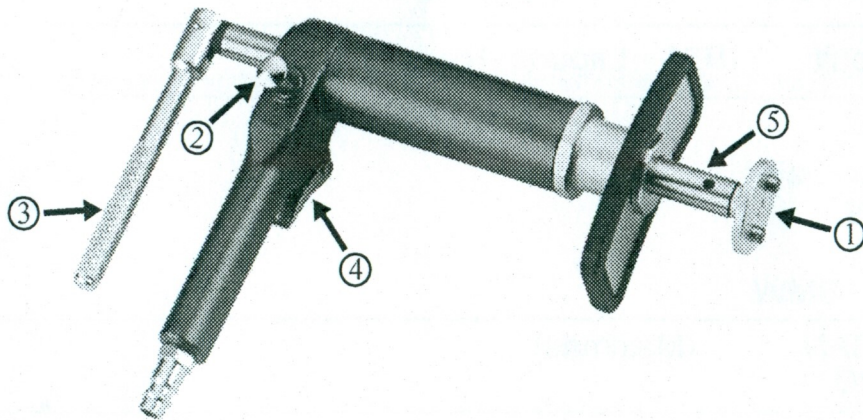
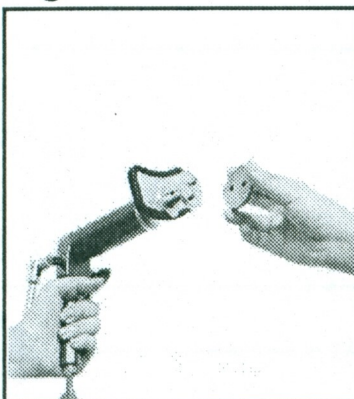

Fig.1
Fig.2
1. Choose an adapter suitable for working on the brake caliper piston. Fit it onto magnetic adapter ①. Connect the tool to the compressed air line, making sure that it does not exceed 8 bar pressure. (Fig.1)
2. Press the release button ② and operate lever ③ to move the push spindle ⑤ forward or backward and fit the tool in to the caliper.
3. Press button ④ and rotating lever ③ to rotate the brake caliper piston. (Fig.2)